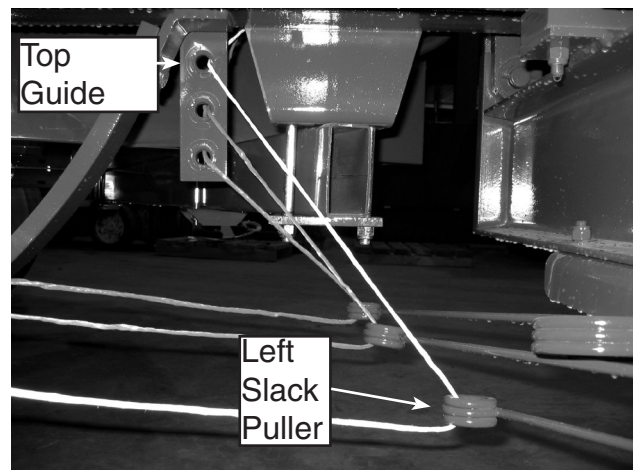

Figure 29 - Chamber Guides to Slack Pullers
4. Feed twine through the slack pullers. Twine from top guide should go to the left slack puller (see Figure 29).